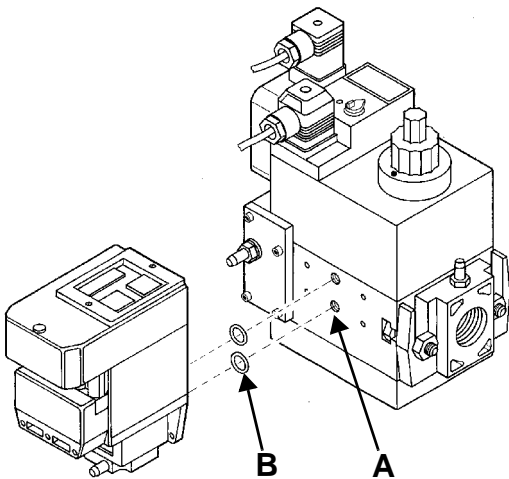
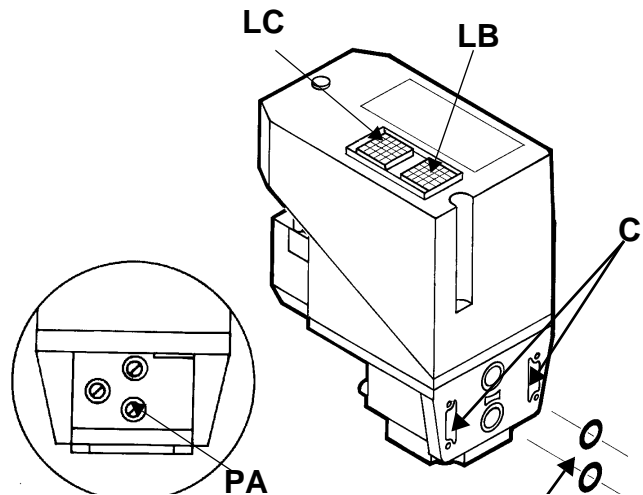

Fig. 21
Fig. 22
- 3 remove the Multibloc's screw plugs (Fig. 21-A);
- 4 insert sealing rings (10,5 x 2,25) into VPS 504 (Fig. 22-B, Fig. 21-B)
- 5 Torque screws 3, 4, 5, 6 (M4 x16) Fig. 21-C
When wishing to monitor the test, install a pressure gauge ranged to that of the pressure supply point **PA** (Fig. 22). If the test cycle is satisfactory, after a few seconds the consent light **LC** (yellow) comes on. In the opposite case the lockout light **LB** (red) comes on. To restart it is necessary to reset the appliance by pressing the illuminated pushbutton **LB**.